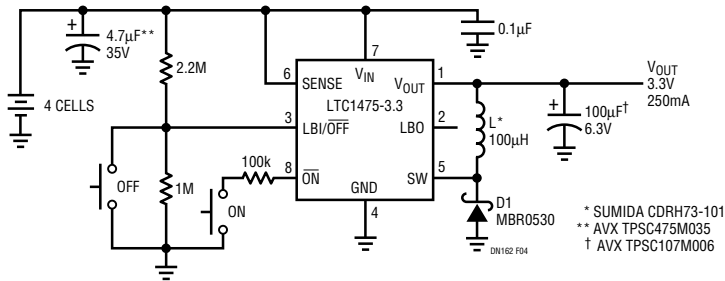

Figure 4. Pushbutton ON/OFF 3.3V/250mA Regulator
The LTC1475 provides the option of pushbutton control of ON/OFF mode for handheld products. In contrast to the LTC1474's ON/OFF mode, which is controlled by a voltage level at the RUN pin (ground = OFF, open/high = ON), the LTC1475 ON/OFF mode is controlled by an internal S/R flip-flop that is set (ON) by a momentary ground at the \overline{ON} pin and reset (OFF) by a momentary ground at the LBI/ \overline{OFF} pin. This provides simple ON/OFF control with two pushbutton switches. A simple implementation of this function is shown in Figure 4.